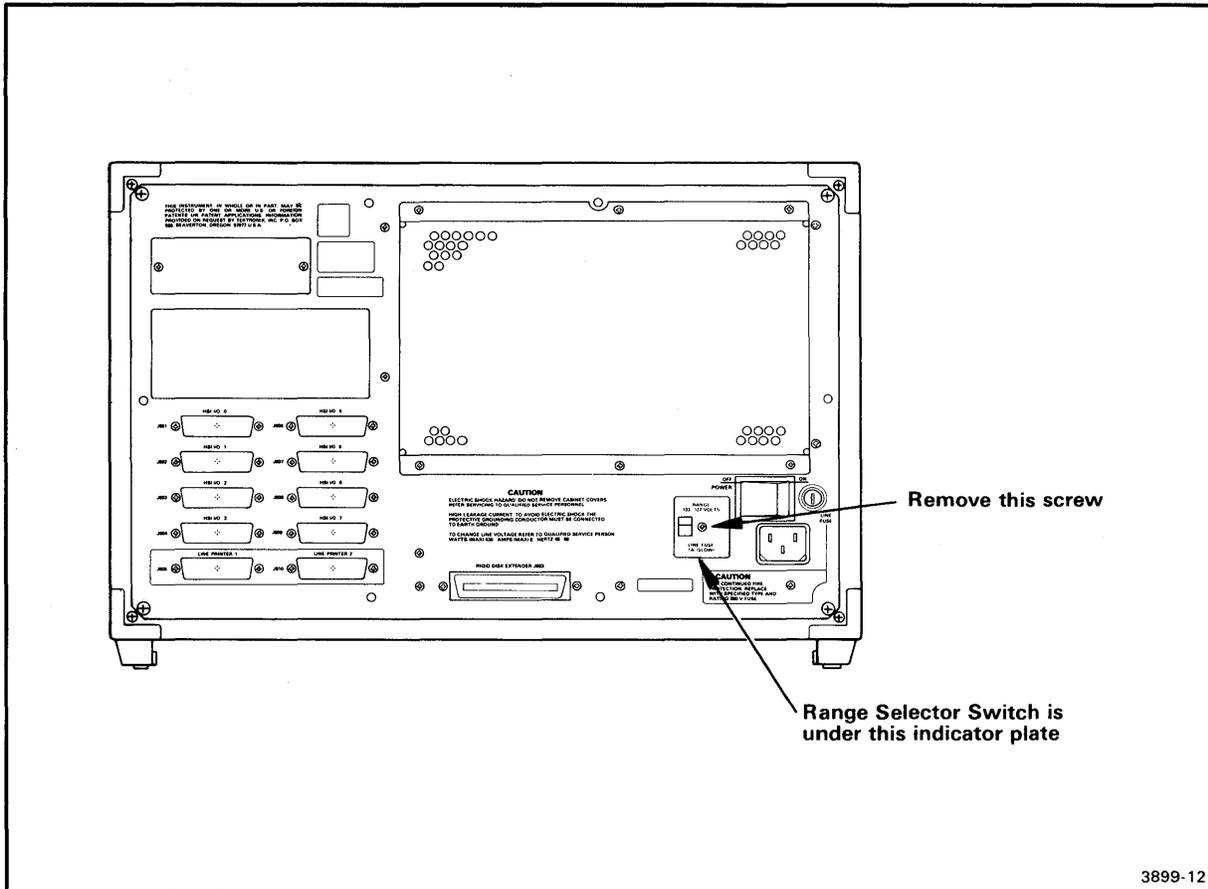

Fig. 2-10. Selecting the primary power voltage range.
1. Refer to Fig. 2-10. Notice the small plate at the lower left part of the rear panel (as you face the rear of the unit). Remove the screw holding this plate.